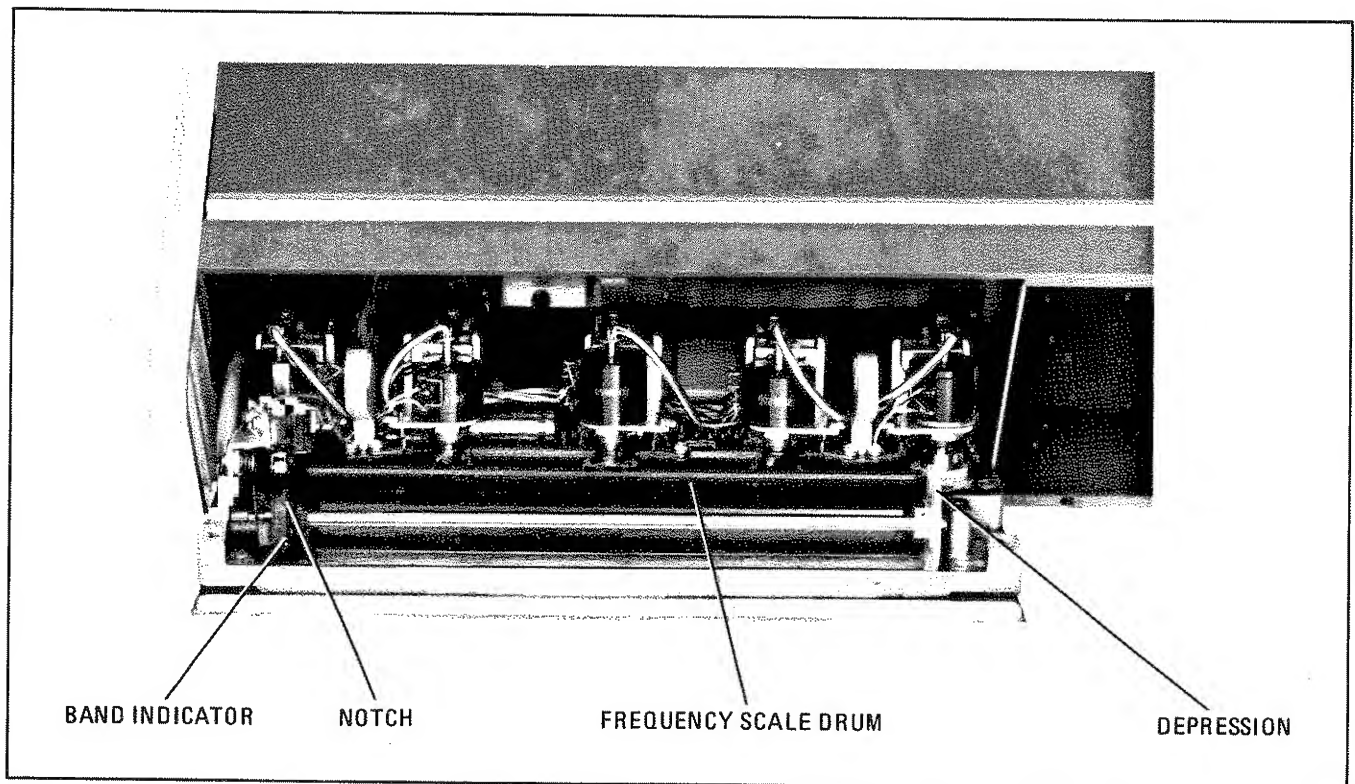

Figure 2-2. Mainframe Front Panel in Open Position
- b. Swing front panel forward and down to position shown in Figure 2-2.
- d. Insert frequency scale so key (a 1/16-inch long, 1/2 inch wide protrusion) on left end of scale fits into notch, shown in Figure 2-2, in roller on left-hand edge of drum.